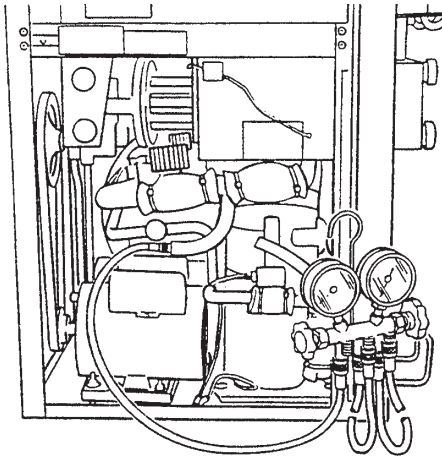

Figure 46. Pressure Gauges
- To check the liquid line solenoid valve seats, we must disconnect one of the electrical lines from each of the liquid line solenoids. Protect the terminal end of the disconnected electrical line with a piece of electrical tape. Then, connect the low side pressure gauges to the access fittings after the expansion valves. Force the left and right sides to run by turning the OFF/ON switch to the ON position and opening the spigots. The gauges should show approximately 9" of vacuum after 1 minute. If the gauge does not reach 1" of vacuum in 1 minute and hold, you may have a leaking solenoid valve seat or leaking valves in the compressor. You can determine which solenoid valve is leaking by watching the pressure rise in each of the barrels. The barrel with the greatest pressure rise should have the leaking solenoid valve seat (Figure 46).